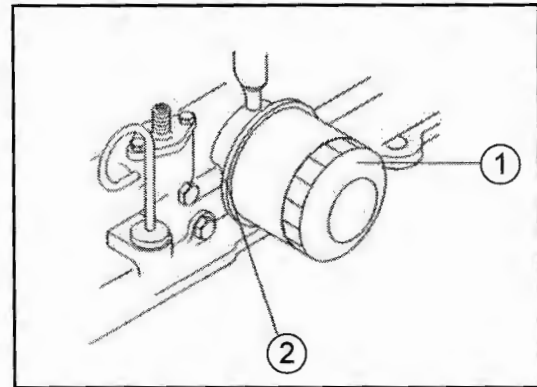

Fig. 38-2 - Removing Oil Filter
- Remove the used filter element (1) and clean mounting surfaces (2). (See Fig. 38-2).